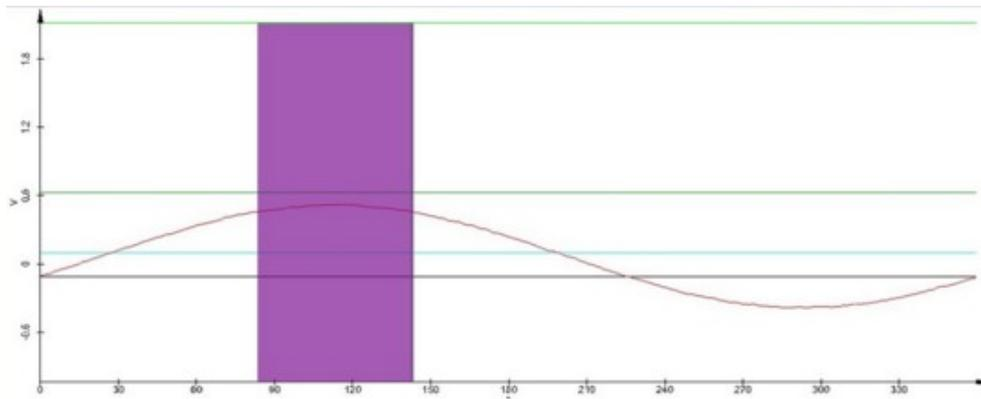
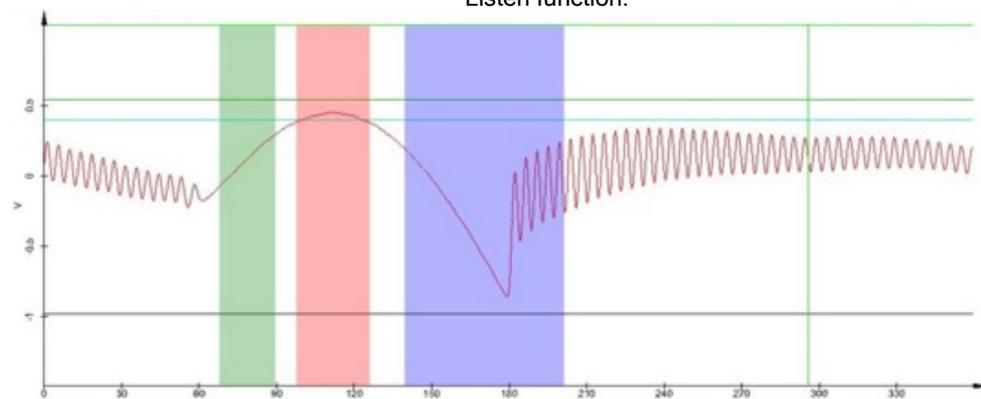

Fig. 1: Sinusoidal curve with Fmax search window
Fig. 2: Pulsed force curve with Fmax (red), Adhesion (blue) and Stiffness (green) search window
After the approach the graph window will either show a sinusoidal curve as shown in Fig. 1 or a pulsed force curve similar to the one in Fig. 2. In the first case, the modulation of the cantilever is too small to completely detach the cantilever from the sample, refer to step 8.
6. Change the Excitation Phase parameter of the PFM Control until the maximum force is in the first half of the oscilloscope graph window (as shown in Fig. 1).
7. Select the F_{max} window as shown in Fig. 1 using the corresponding Listen parameter from the PFM Control mark the range by mouse.
8. Increase the Driving Amplitude pk-pk [V] until a pulsed force curve is displayed in the graph window as shown in Fig. 2.
9. Select the search windows for adhesion and stiffness as shown in Fig. 2 using the corresponding Listen function.